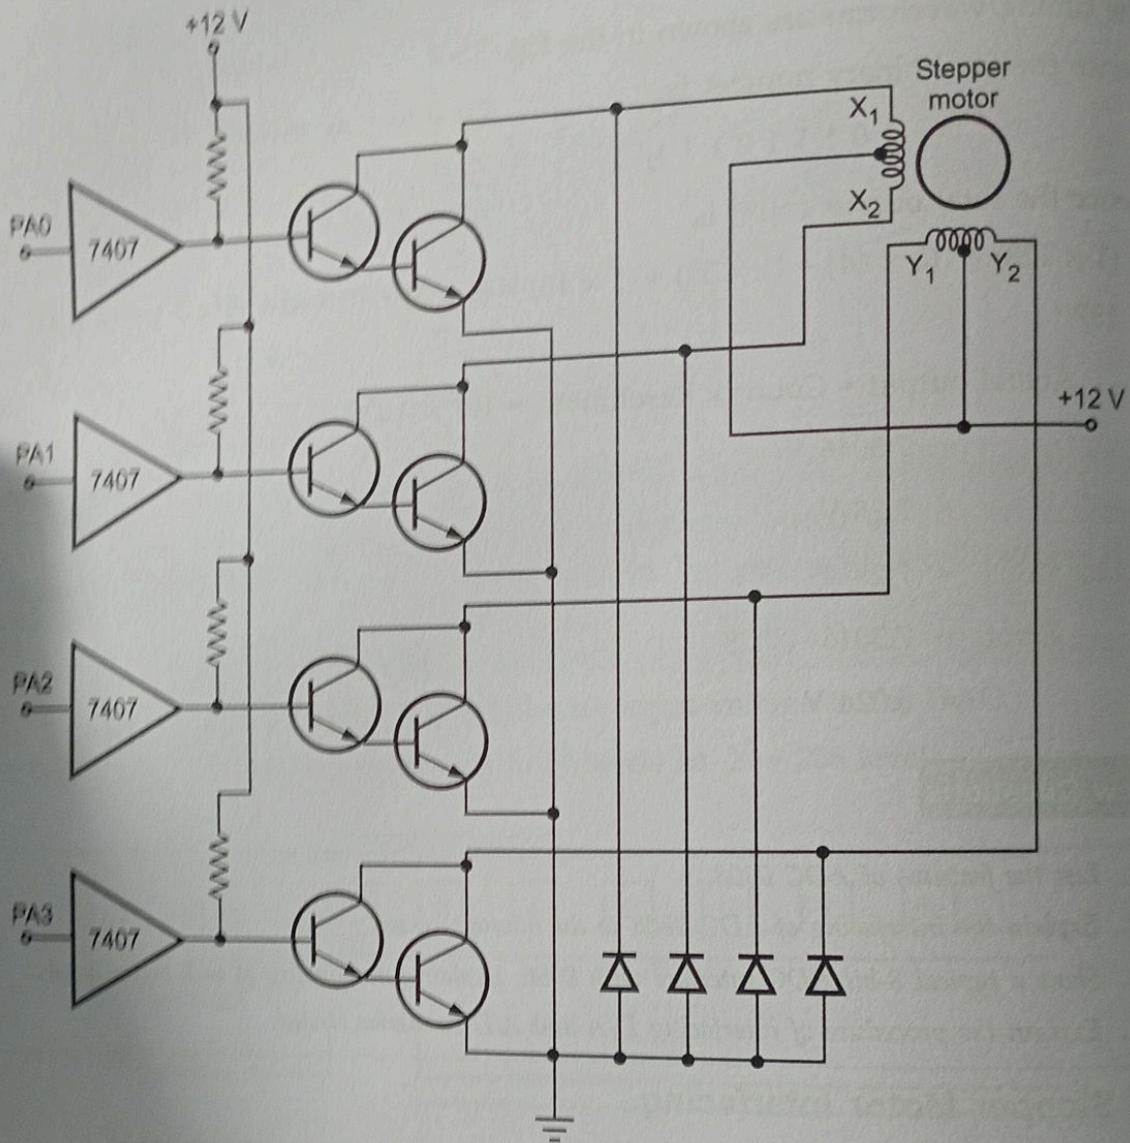

Fig. 3.7.1 Stepper motor interface
- * Fig. 3.7.1 shows the typical 2 phase motor interfaced using 8255. Motor shown in the circuit has two phases, with center-tap winding. The center taps of these windings are connected to the 12 V supply. Due to this, motor can be excited by grounding four terminals of the two windings.